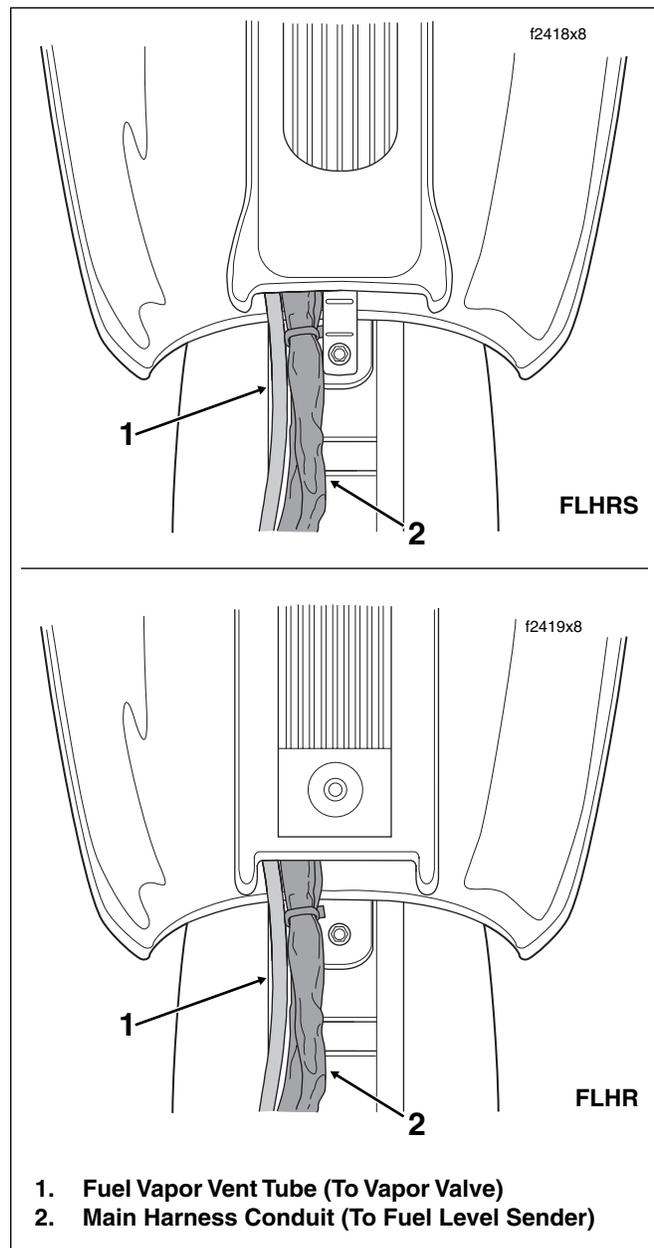

Figure 4-19. Console Cable/Hose Routing (FLHR/S)
9. Exercising caution to avoid pinching harness and vent tube, align hole in instrument console with console mounting bolt and place into position on fuel tank. See Figure 4-19.
- Exercising caution to avoid pinching harness and vent tube, align hole in instrument console with console mounting bolt and place into position on fuel tank. See Figure 4-19.